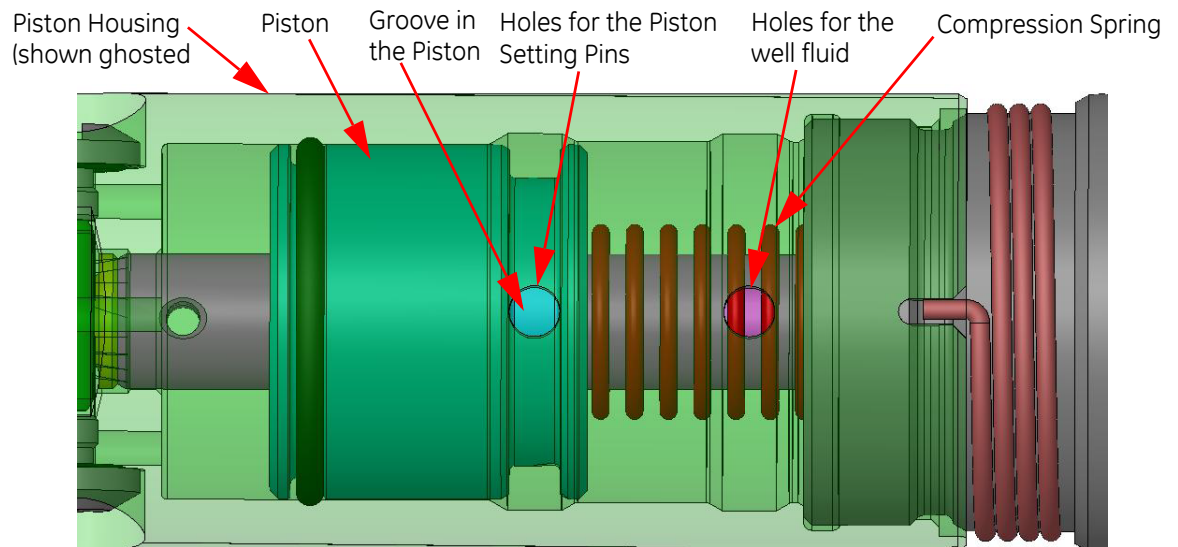

Figure 4-4 Identification of the well fluid entry holes with the Piston in the correct position
With reference to **Figure 4-4**, when the wide groove in the Piston (*item 4*) (inside the Piston Housing - *item 12*) is moved to a position where it is visible correctly through the two holes for the Piston Setting Pins, the associated seals are optimised for pressure balance in the tool. This is to prevent a large difference in pressure between the inside and the outside of the tool, as this can cause damage to the Crystal Housing (*item 11*).